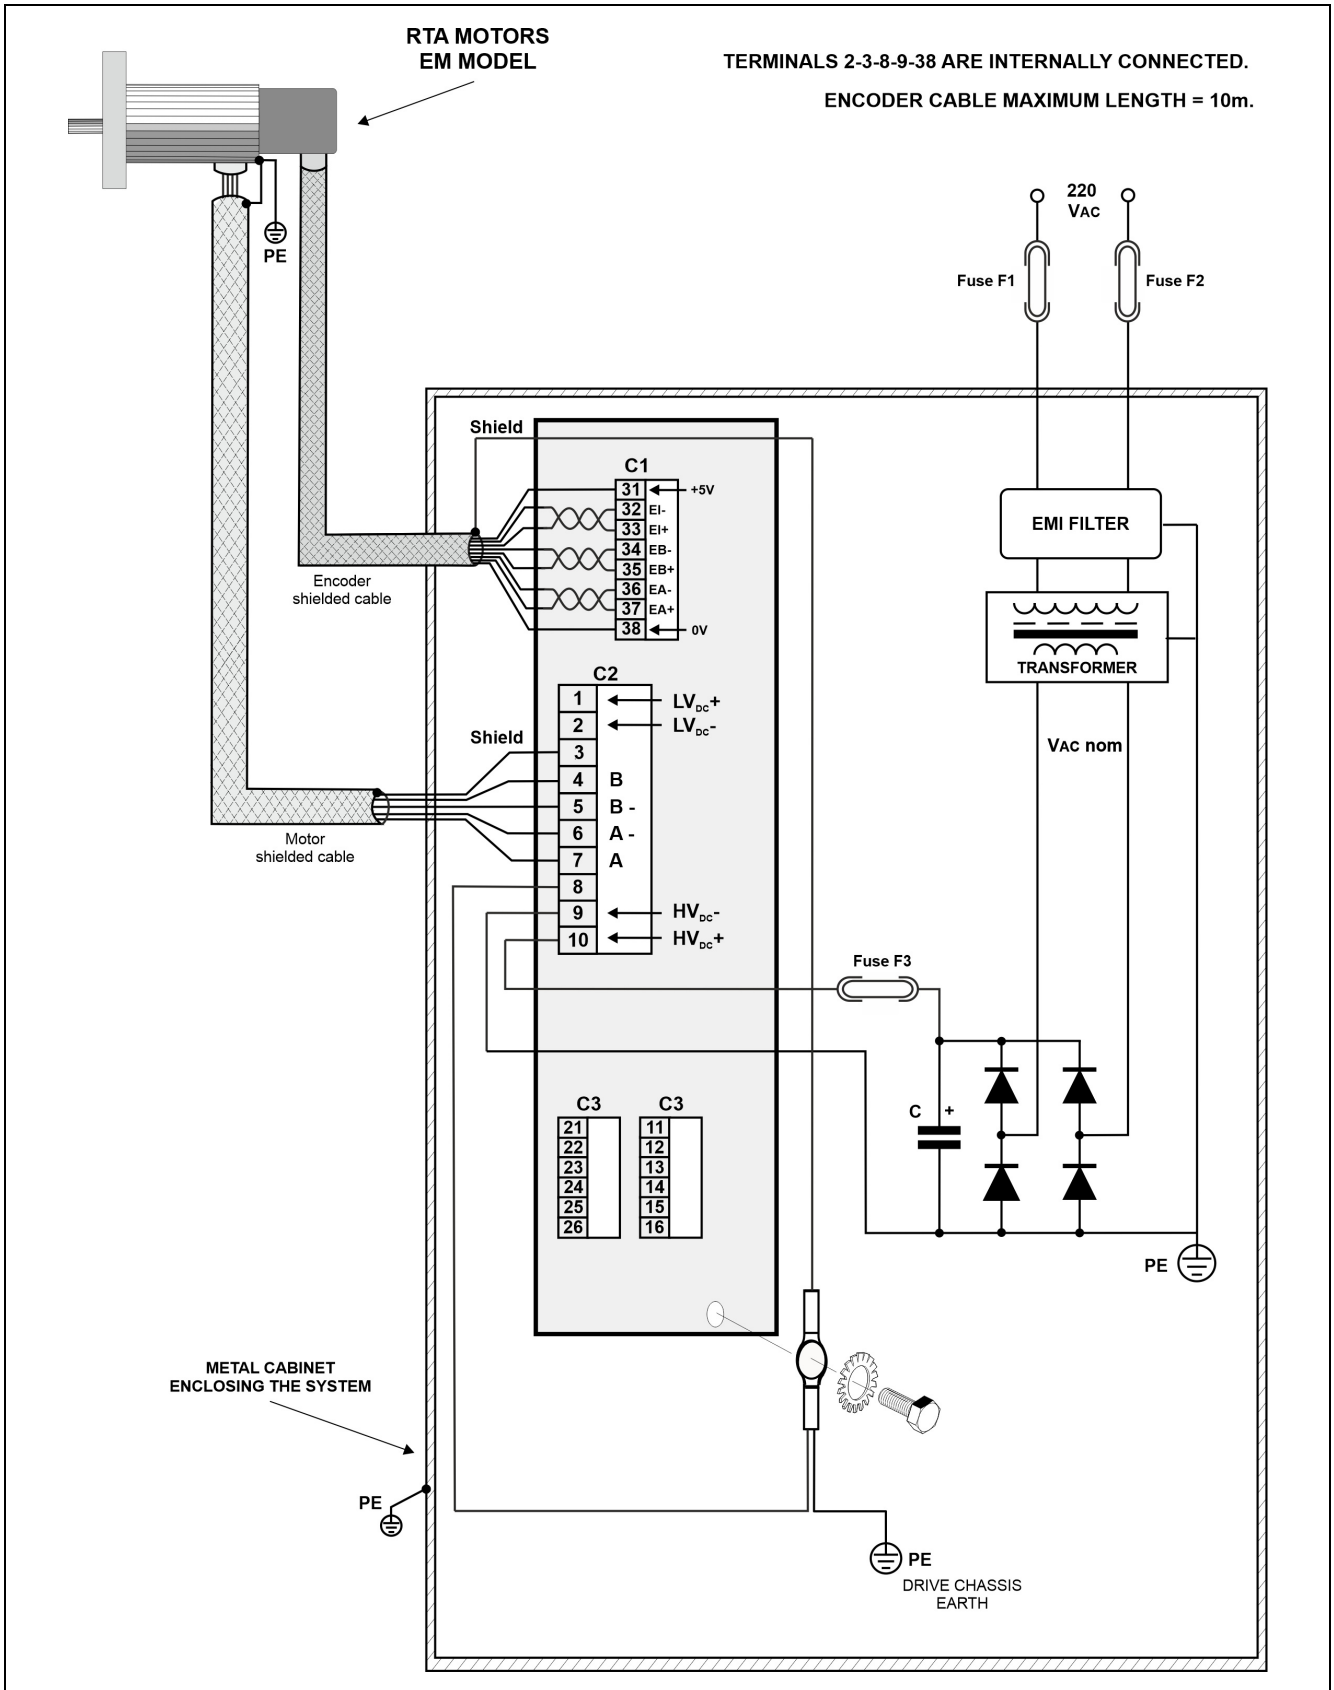
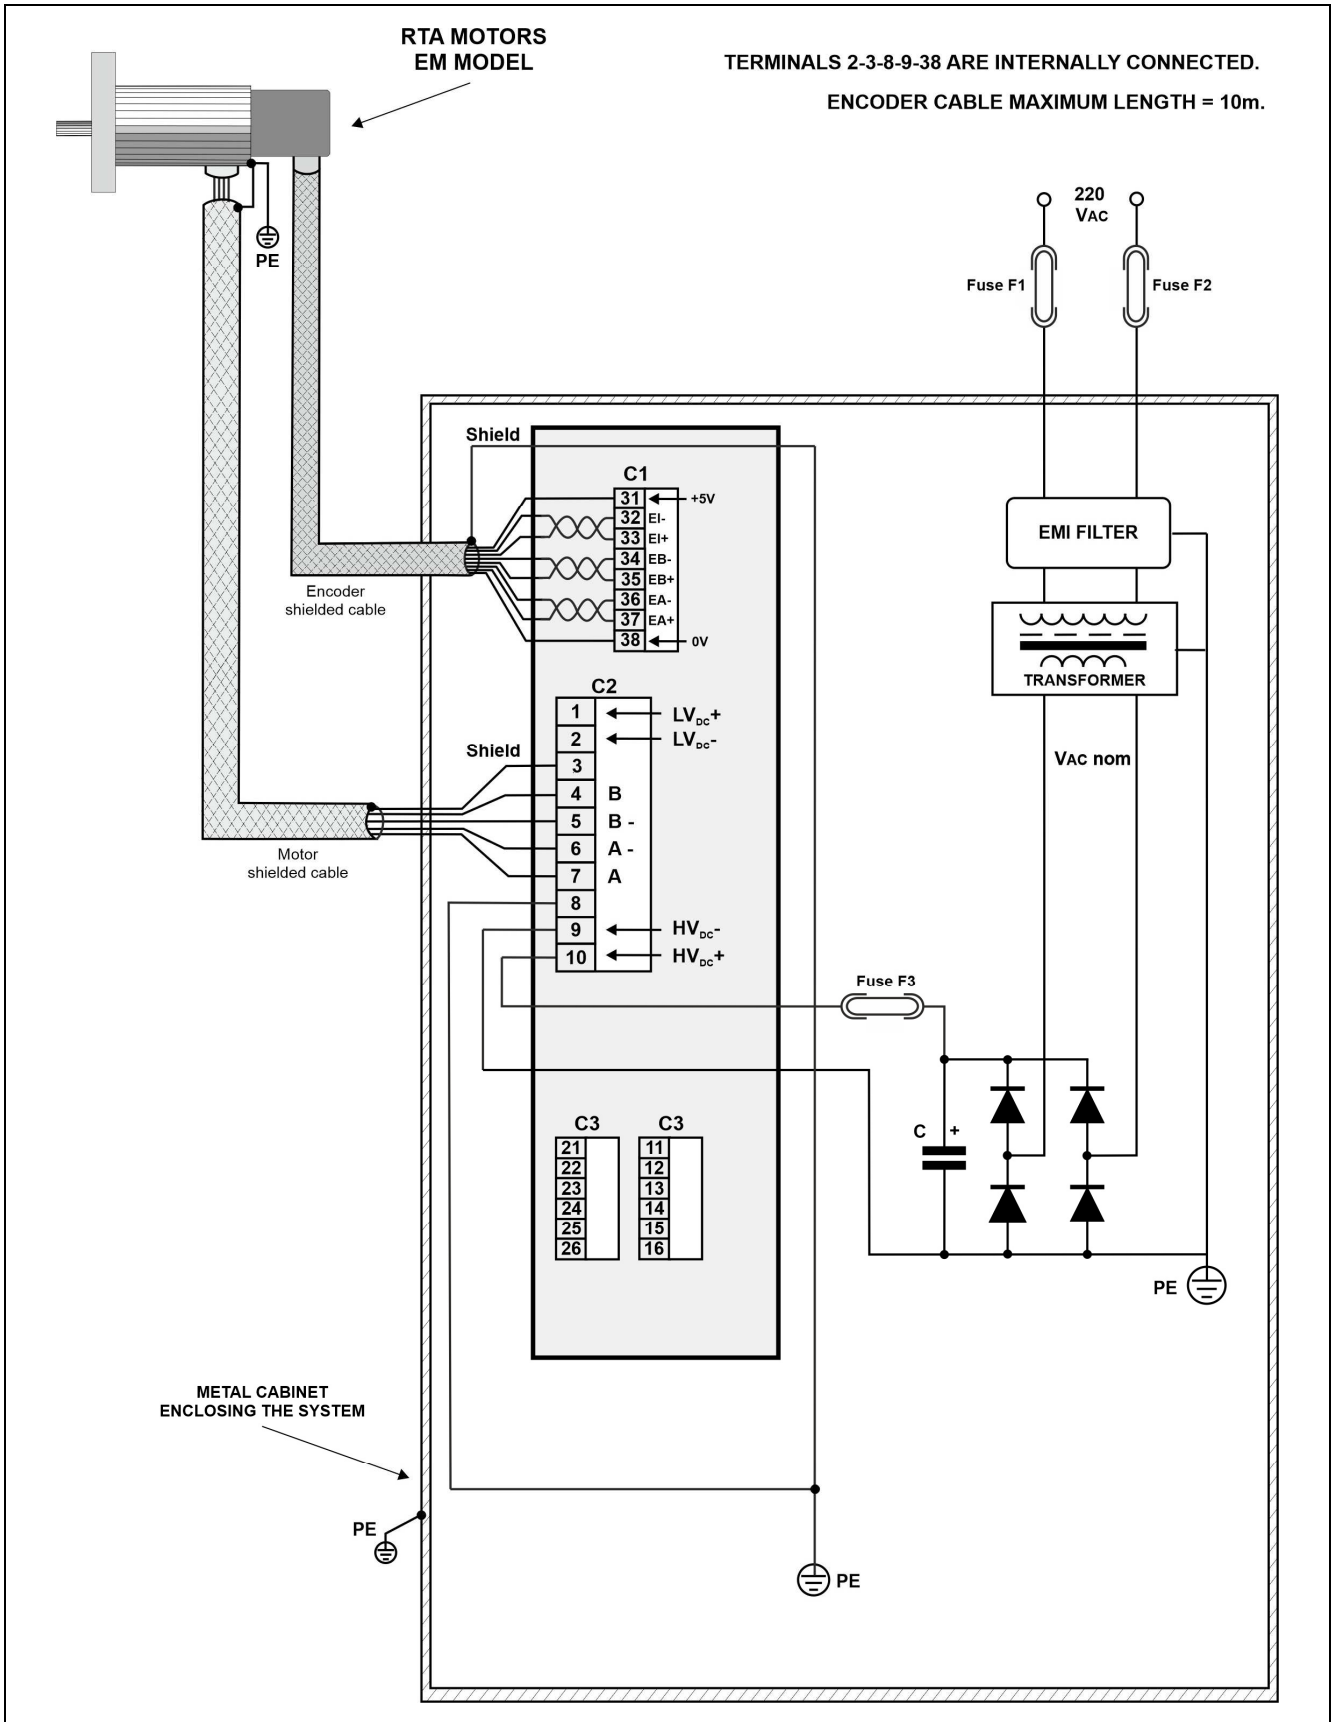

Fig. 7 – Drive external connections scheme in CSD ET 04. Fuse F3 is mandatory for UL compliance.
Fig. 8 – Drive external connections scheme in CSD ET 94. Fuse F3 is mandatory for UL compliance.
5.3- The terminal indicated as GND is the point of motor-drive system that has to be connected to earth (PE terminal in CSD ET 04) in order to guarantee the correct operation of some drive protection systems. No other point at a different potential of logic circuit and of power circuit has to be connected to earth; in particular it has not to be connected to earth transformer secondary winding. Shield of shielded cables of motor outputs must be connected to terminal 1 of C2 connector and shield of shielded cables of signal outputs must be connected to PE with connection with the less possible length. Furthermore it is important to note that GND terminal is internally connected to terminal 2, 3, 8 and 9 of C2 and to terminal 38 of C1. See connection schemes of Fig. 7, 14 and 15.
- 7.3- Fuses F1 and F2 (see Fig. 7 and Fig. 8) are time lag with nominal current according transformer power.
- 7.4- **Fuse F3 (see Fig.7 and Fig. 8) must be of type KTK-R-8 by COOPER BUSSMAN LCC or equivalent [Branch circuit protection fuses]**